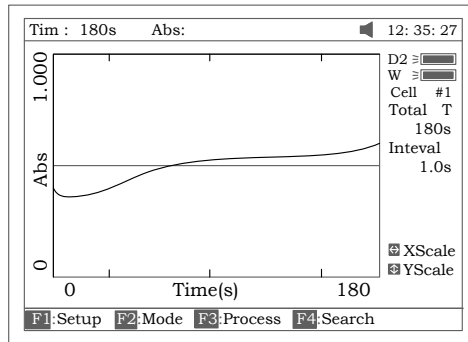

Fig 56
4. Pull the sample cuvette into Main Light Path, press **[START]** to scan the sample. After the delay time, the beeper beeps 3 times and time-scan starts. At the end of the time-scan, the beeper also beeps 3 times (Fig 56);
Press the key **【SAVE】** to save curve. Note: Load/Save requires the first kinetics display page Fig. 56. Press **ESC** if in Search to return to the required page.